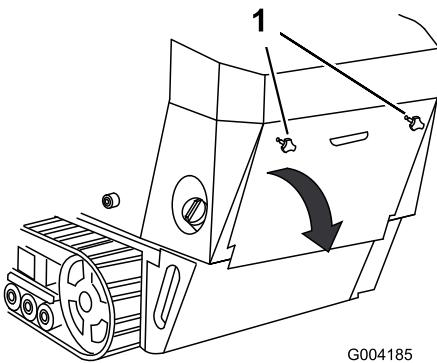

Figure 28
1. Unscrew the 2 hand knobs securing the rear access cover to the machine (Figure 28).
2. Tilt the rear access cover down and remove to access the internal components (Figure 28).